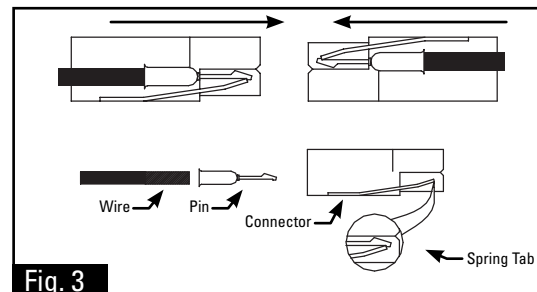

Fig. 3
Step 3: Crimp or solder pin to wire (Fig. 3).